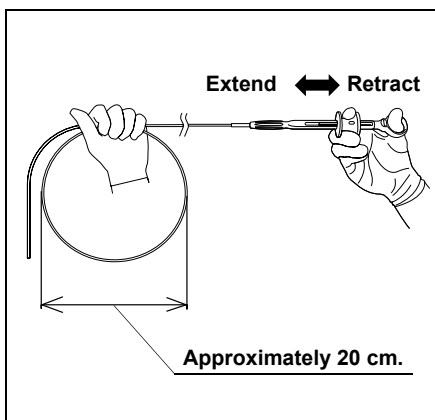

Figure 3.4
1. Holding the instrument as shown in Figure 3.4, form a loop in the insertion portion approximately 20 cm in diameter.